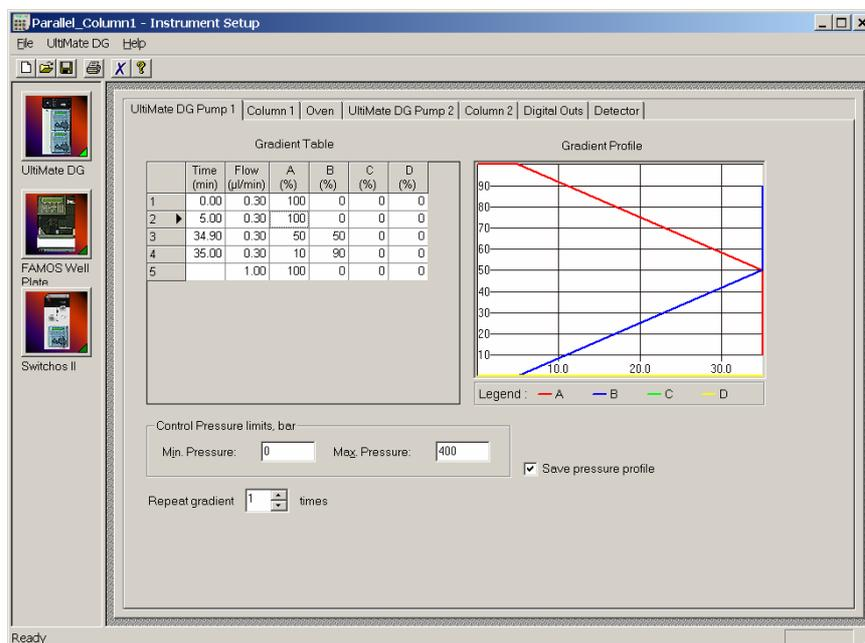
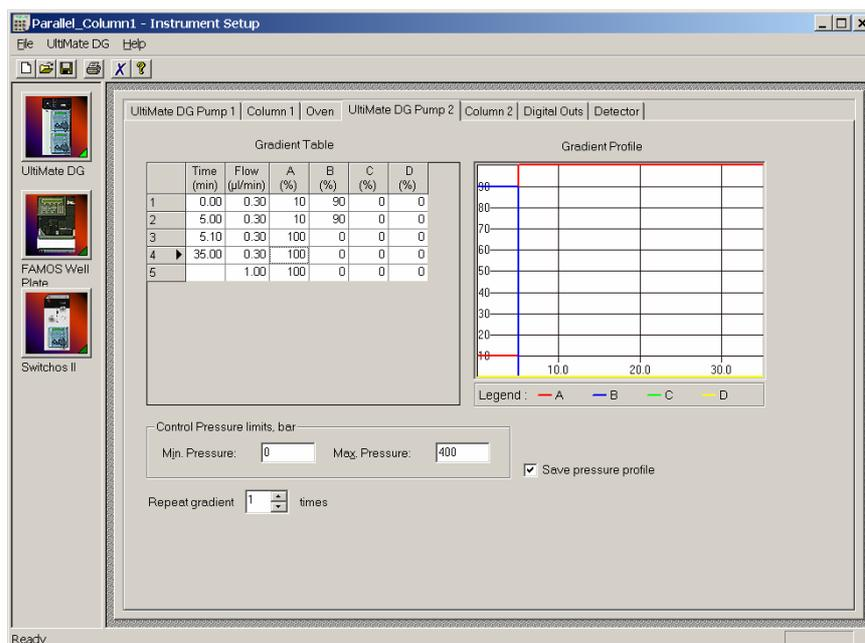

FIGURE 3-15 Gradient Program for the Gradient Pump 1 – Gradient Elution
FIGURE 3-16 Gradient Program for the Gradient Pump 2 - Wash and Reconditioning
- Choose the **UltiMate DG Pump 1** and **Pump 2** tab to display the pump setup windows and program the required gradients as discussed in Section 2.5.2 A. The following pictures present the gradients for the gradient pump 1 (FIGURE 3-15) and gradient pump 2 (FIGURE 3-16).